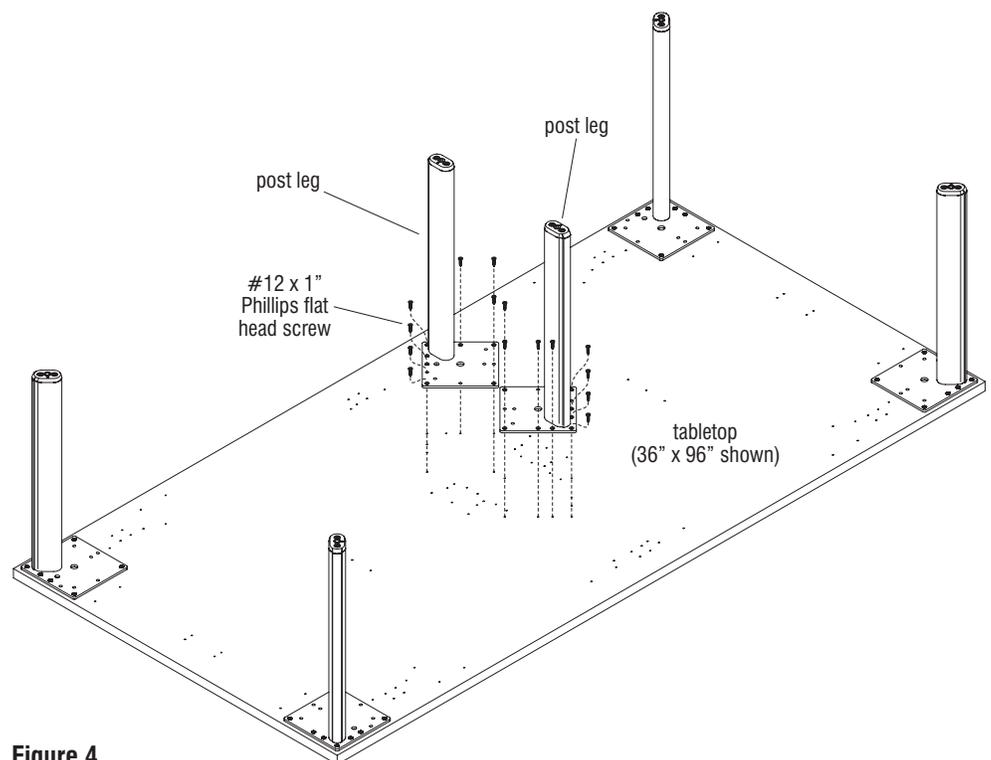

Figure 4
1. Position each post leg over the center pre-drilled mounting holes in the underside of the tabletop as illustrated. Secure each post leg to the top using eight #12 x 1" Phillips flat head screws through the post-leg mounting plate (Figure 4).